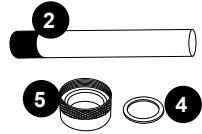

FIGURE 7
5. Remove the quartz seal compression nut (5) by turning it **counterclockwise**, Figure 5. Use a pair of channel-lock pliers if needed, Figure 6. You will notice that there is a stainless steel compression washer (4) which slides over the quartz tube, save the washer (4) for later use, Figure 7.
6. Now you are ready to clean or replace the quartz tube (2). For cleaning the quartz tube (2), follow steps 7 and 8 then proceed from step 9. For replacing quartz tube (2), skip steps 7 and 8 and proceed from step 9.